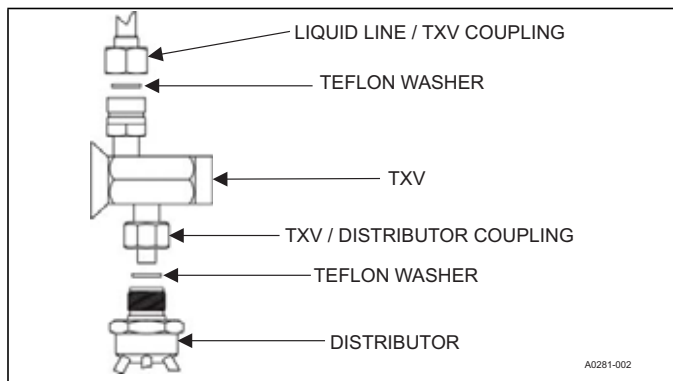

FIGURE 8: TXV Installation
4. Install the thermal expansion valve to the distributor assembly with supplied fittings. Ensure Teflon washer is seated in distributor. Hand tighten and turn an additional 1/4 turn to seal. Do not over-tighten fittings. See Figure 8.